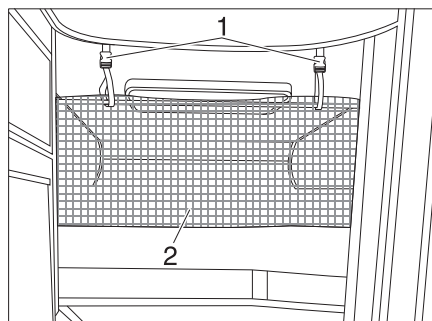

Fig. 156 Safety net
- Fasten the retaining straps (Fig. 156,1) to the holders on the ceiling (Fig. 156,2).